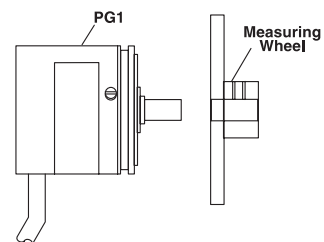

FIGURE 9
5. Using the provided set screw, securely attach the provided Measuring Wheel with PG1 to shaft of PG1 (See Figure 9).